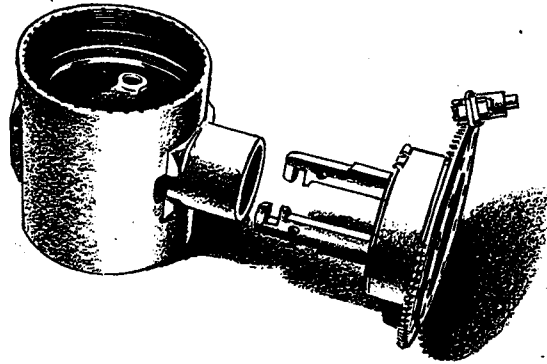

Figure 22
(2) Remove the pitch-change mechanism and actuator from the hub. (See figure 22.)